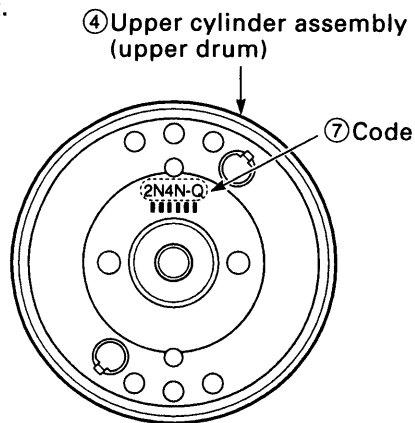
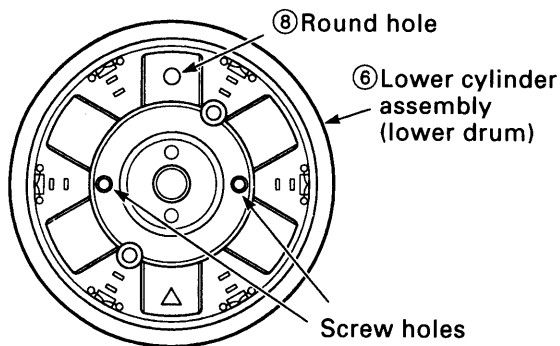

Fig.3-5-3
Fig.3-5-4
1. When carrying out assembly, the CH-1 head on the upper cylinder assembly (upper drum) ④ and the lower cylinder assembly (lower drum) ⑥ must be aligned. The CH-1 head on the upper cylinder assembly ④ bears a code ⑦ such as 2N4N-Q, 2N4P-QO, 2N4N-QL, 2N4P-QL, 2N4N-SQ, 2N4P-SQ...etc, as shown in Fig.3-5-3. The CH-1 on the lower cylinder assembly ⑥ has a round hole ⑧, as shown in Fig.3-5-4. Assemble the parts so that the round hole ⑧ is next to the code ⑦ on the upper cylinder assembly.